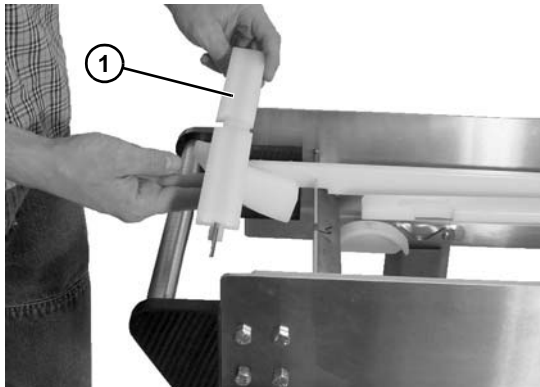

Figure 50
2. Remove the nose bar idler bar with wear strips and idler shoe attached (**Figure 50, item 1**).